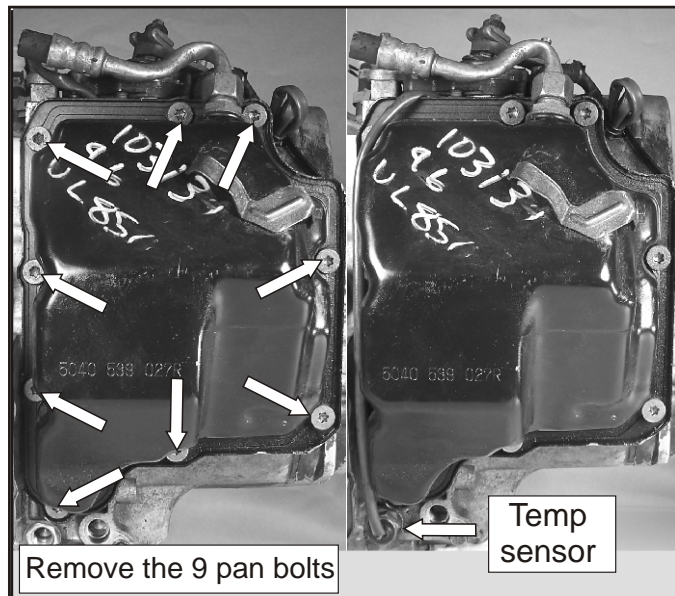

Figure 300
- 224. Apply a thin coat of sealant to the case half and install the side pan. Install the nine pan bolts and torque to 7-11ft.lb. *Note: the bolt lengths are 15mm long.* Install the temperature sensor. See Figure 300.